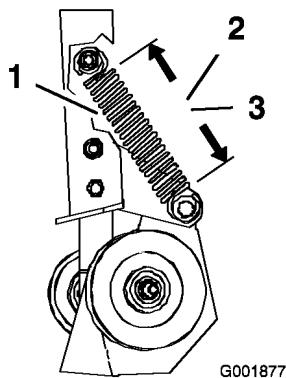
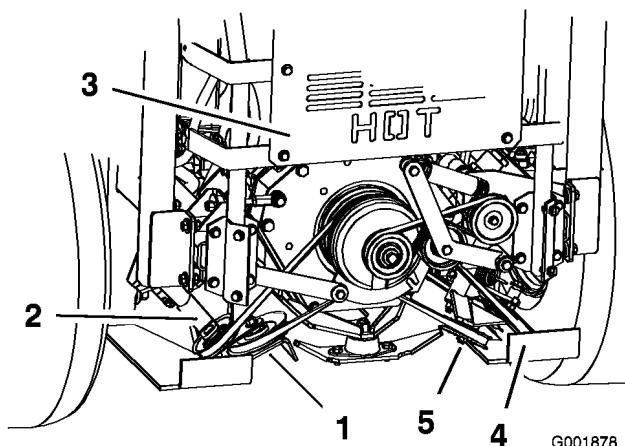

Figure 63
Figure 64
3. Measure the length of the spring. Check to make sure the coils of the spring on the spring-loaded idler pulley measures as listed below (Figure 63 and Figure 64).
- Left spring measurement: $5\frac{3}{4} \pm 1\frac{1}{8}$ inch (14.6 ± 0.3 cm) (Figure 63).
- Right spring measurement: $5\frac{1}{2} \pm 1\frac{1}{8}$ inch (14.0 ± 0.3 cm) (Figure 63).
4. If the spring does not have the correct measurement, loosen the nut holding the adjustable idler pulley so it can move up and down in the slot (Figure 64).
5. Relieve the pressure on the spring-loaded idler pulley (Figure 64).
6. Position the adjustable pulley lower in the slot and tighten the nut (Figure 64).
7. Check to make sure the coils of the spring on the spring-loaded idler pulley have the correct measurement (Figure 63).